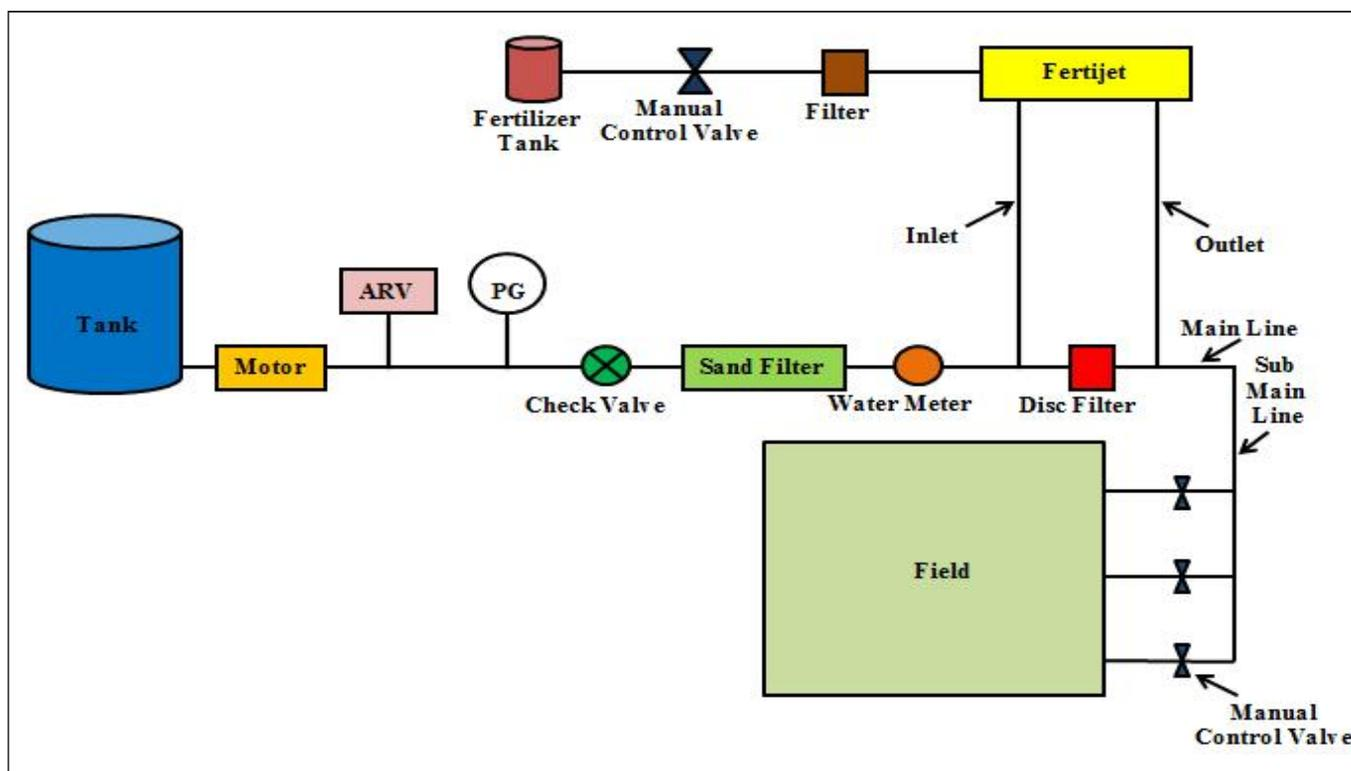

Fig. 1: A view of drip irrigation system
**Installation of drip irrigation:** Installation of drip can be divided into three stages *viz.*, fitting of filter station, connecting the main to sub mains and laying of laterals with drippers. To avoid the damage during agricultural practices in the field main and sub main pipe line was installed at minimum depth of 1.5 feet. Install the drip system as shown Fig. 1. Filter was installed on the main